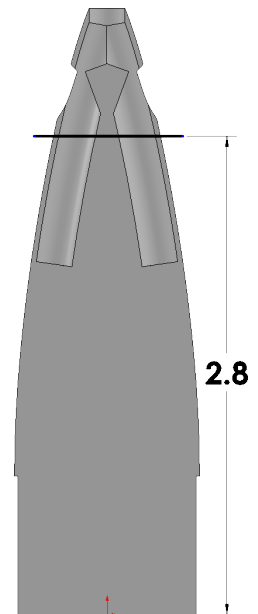

Fig. 46
Step 4. Sketch a horizontal line across Nose Cone, **Fig. 46**.
Step 6. Add **2.8** dimension, **Fig. 46**.